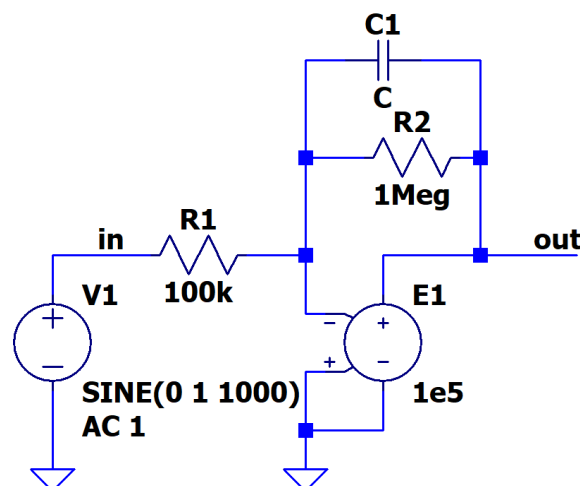

Fig. 9. Schematic with ac source and feedback capacitor.
- The schematic should appear as in Fig. 9 with the placeholder letter C replaced with the value you calculated.